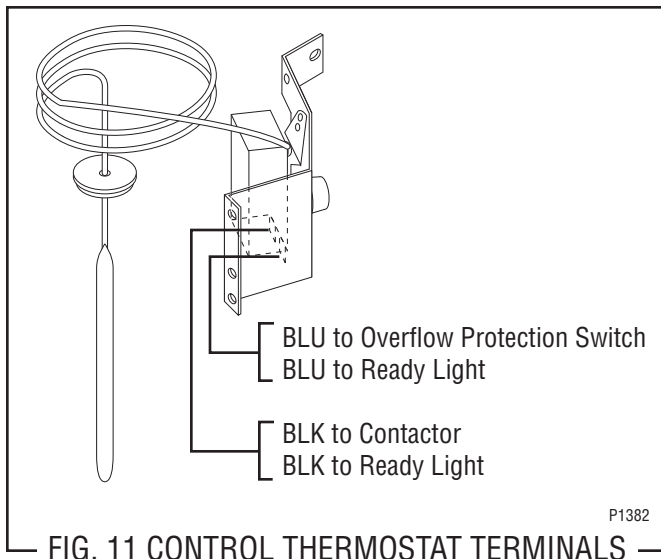

FIG. 11 CONTROL THERMOSTAT TERMINALS
8. Refer to Fig. 11 when reconnecting the wires.